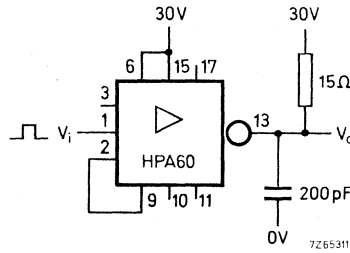
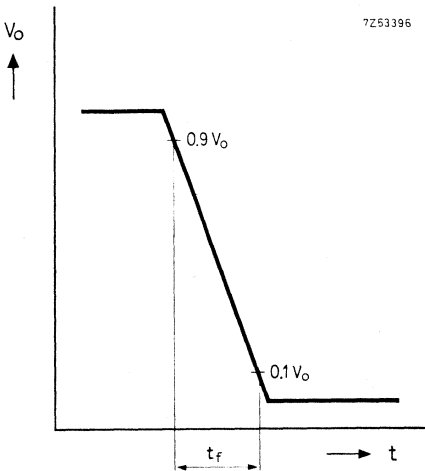
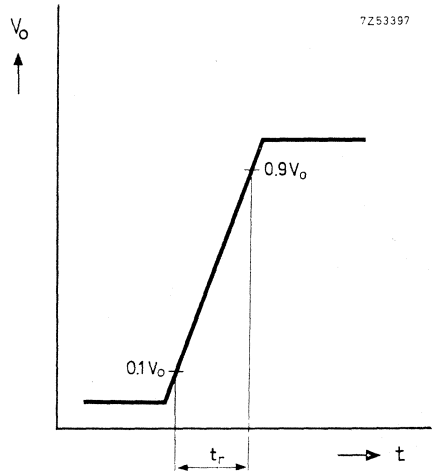

Fig. 4
Fig. 5
Fig. 6
The fall time  $t_f$  is defined as the time required for the output voltage to change from 90% to 10% of its full value, after application of a step input, under conditions as shown in Fig. 4 (See also Fig. 5).
The rise time  $t_r$  is defined as the time required for the output voltage to change from 10% to 90% of its full value, after application of a step input, under conditions as shown in Fig. 4 (See also Fig. 6).
1. The GLD 60 makes it possible to drive loads (relays, magnetic valves etc.) of which one side has been connected to ground, Fig. 4 illustrates also the suitability of the unit for systems which from the point of safety require that the load is not activated in case of short circuit to ground of the output.
Fig. 5 shows how higher loads can be driven. This circuit permits load resistances down to 8,6 Ω (corresponding to a load current of 3,5 A at Vs = 30 V). The BDY60 is mounted on an aluminium heatsink of 150 cm2, thickness 2 mm. For inductive loads a flywheel diode D (BYX30/50) is required.